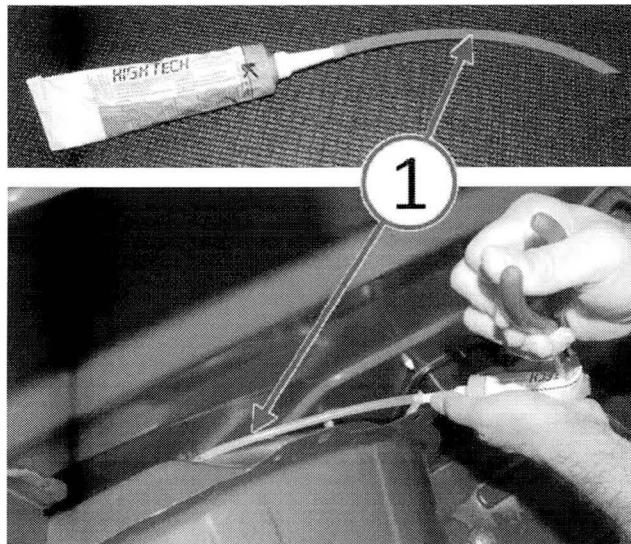

Fig. 3 Extend Sealant Applicator With Hose
6. Use a piece of tubing (1) to extend the seam sealant applicator for improved access into the wheelhouse seam area (Fig. 3).